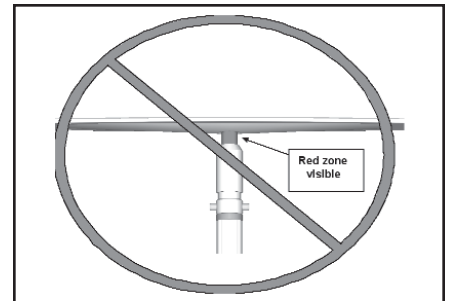

Figure 21-A
16. Once the bubble is in the center of the clip-on level, continue to tighten ONLY until the red zone at the top of the post is no longer visible (Figures 21-A & B).